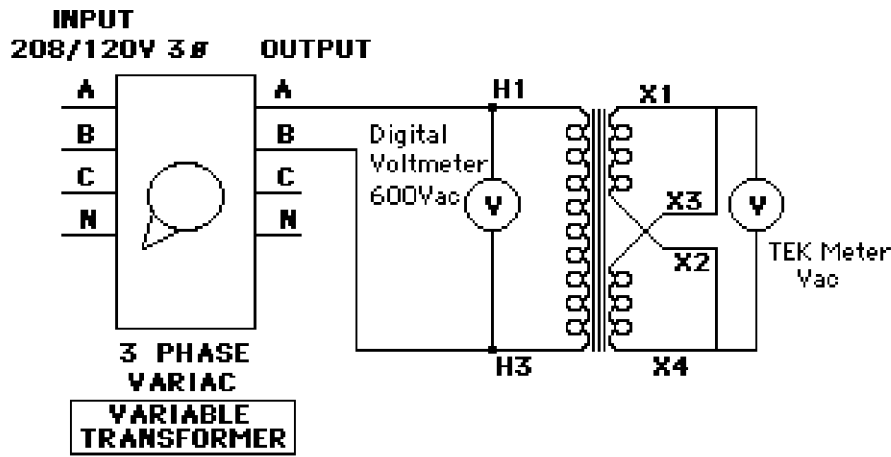

Figure 1
5. Construct the circuit of figure 1.